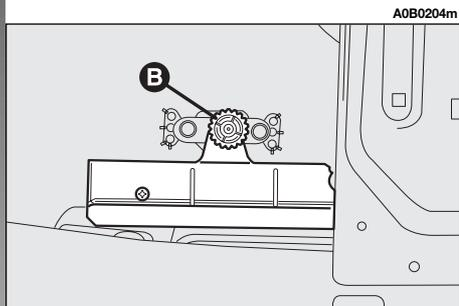

fig. 50
- Slacken the knob (**B-fig. 50**) and withdraw the complete unit.
- Refit the transparent cover and install the unit locking it with the knob (**B**-fig. 50).